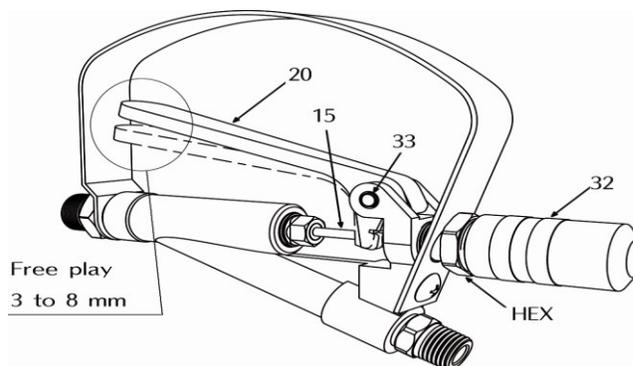

FIG.2
To lock the safety knob (32), turn the knob fully clockwise; this locks the needle in the forward position. To unlock the safety knob, turn the knob fully counterclockwise. FIG2.
Turn the hex part of the trigger safety (32) in or out to adjust the trigger tension. See Fig 2.
Oil the exposed part of the valve rod (15) and trigger pivot (33) daily. See Fig. 2. Whenever you clean the gun, remove the tension adjusting screw (2), and pull out the valve rod., Clean and oil the exposed part of the valve rod all the way back to the packing screw (19).
2. Check the free play of the trigger. Lift the trigger (20) with a finger; it should move 1/8 to 5/16 inch (3.2 to 7.9mm). See Fig. 2. If not, adjust as described below.
3. Grasp the hex of the safety knob (32) with an 11/16 inch open end wrench and unscrew the knob assembly from the gun body.
4. Squeeze the trigger to move the adjusting nut (18) out, and then loosen the cap screw (2). Unscrew the adjusting nut (18) just a few turns.
5. Push the adjusting nut forward as far as possible. You should feel the valve stem (26) contact the seat (29). This indicates proper contact to stop the flow of fluid.
6. Turn the adjusting nut (18) in until the proper free play is obtained. Squeeze the trigger to move the adjusting nut out and tighten the cap screw (2).
7. Screw on the safety knob (32).